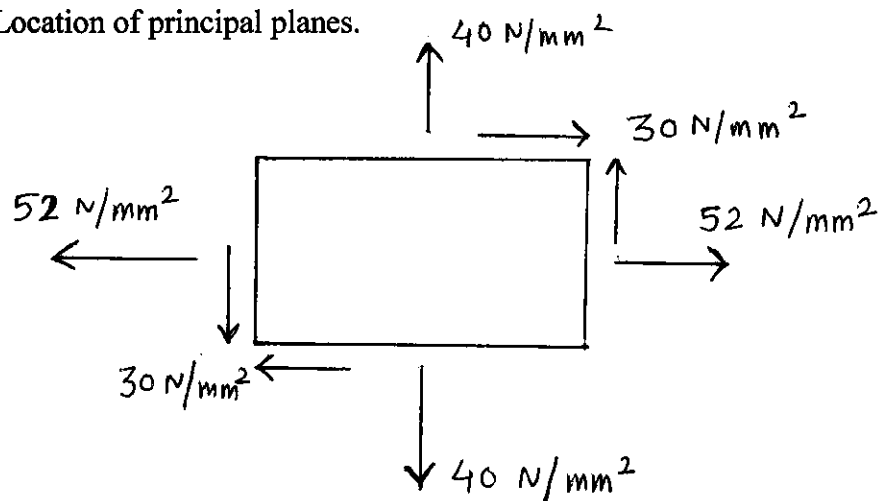

Fig. 3.a
- Q3. a) A point in a strained material is as shown in figure 3.a. Find 1. Major principal stress 2. Minor principal stress and 3. Location of principal planes.
- Q3 b) A simply supported beam has I shape cross section as shown in figure 3.b. The simply supported beam carries UDL of 40 kN/m on entire span of 10 meters. Find maximum bending stress produced.